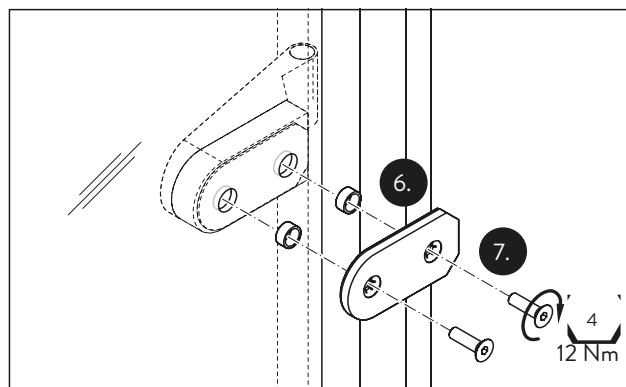

Abb. 23 Mounting the counter-plate
- Insert the glass protection rings into the glass door panel on the side opposite the hinges (Fig. 23).
- Mount the counter-plates onto the glass door panel on the side opposite the hinges using the counter-sunk screws. Tightening should be 12 Nm (Fig. 23).